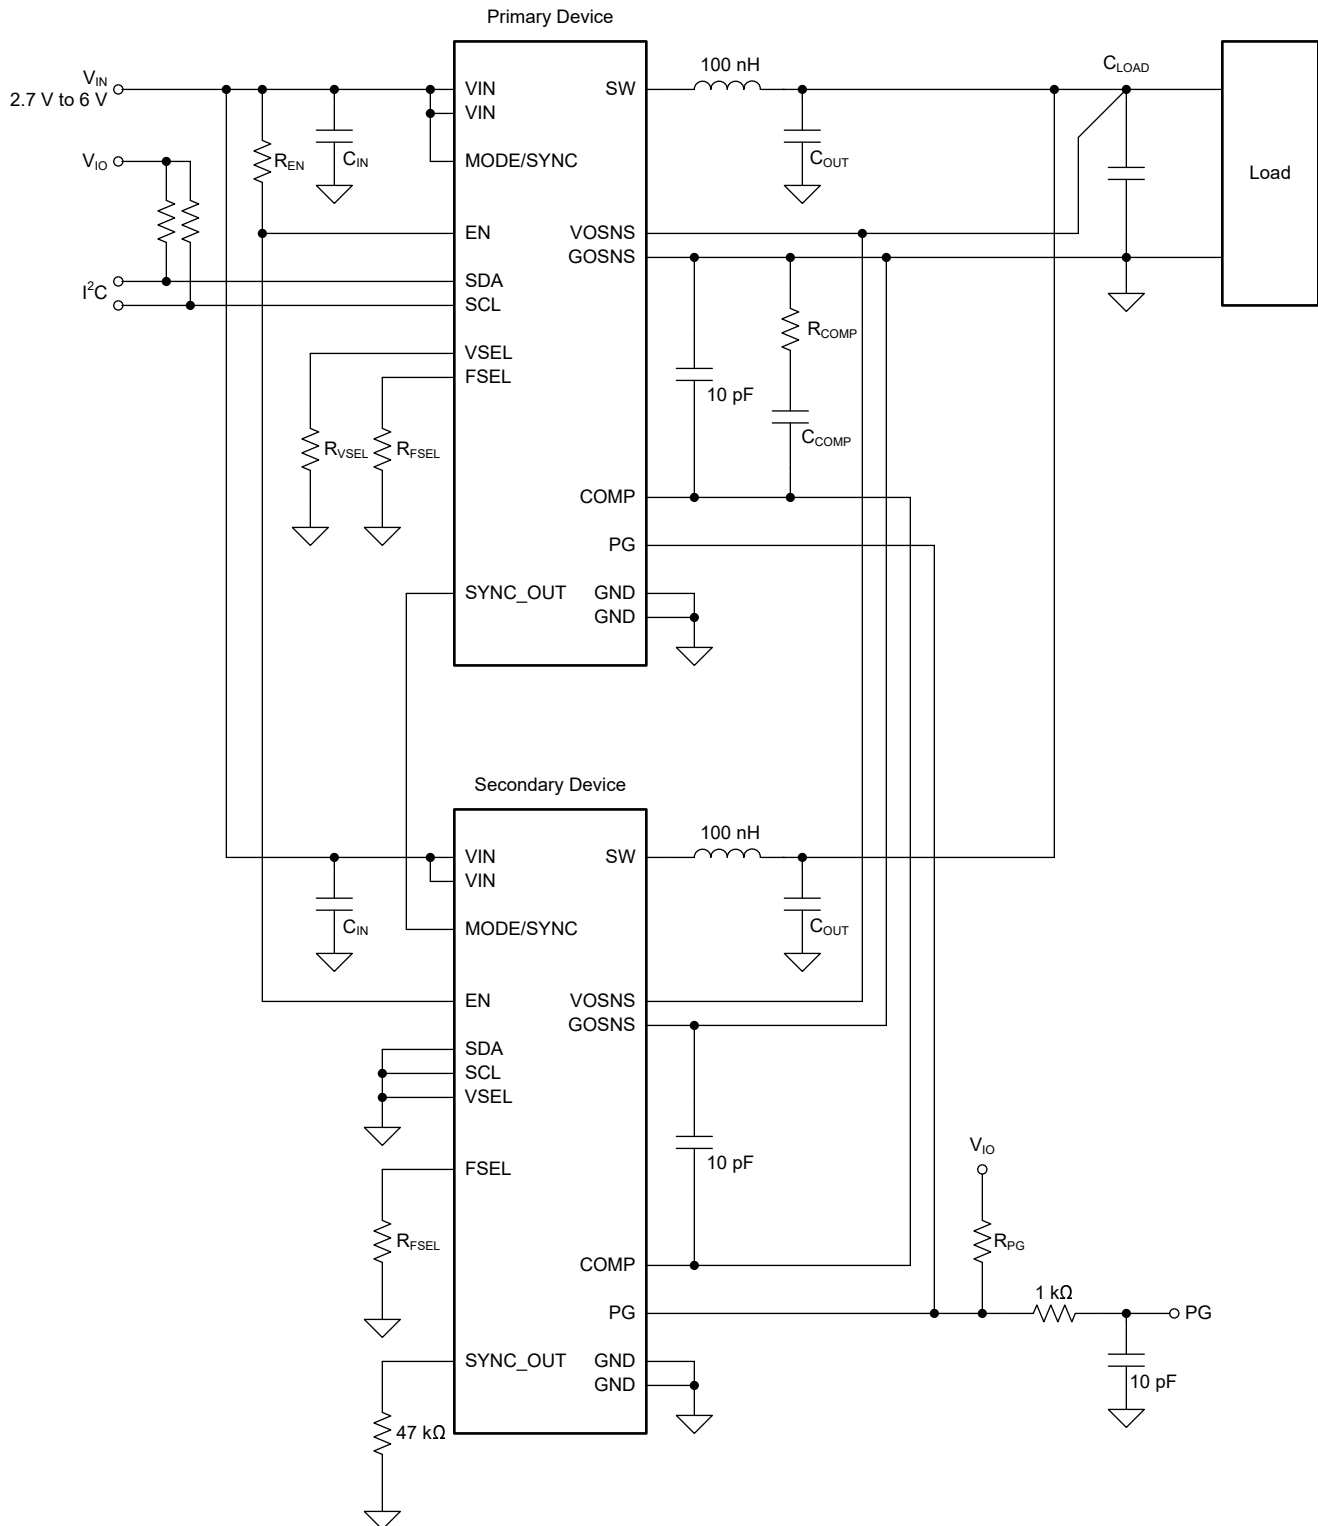

图 9-14. Two TPS6287x-Q1 Devices in a Stacked Configuration
To use the SSC function with multiple devices in a stacked configuration, ensure that the primary converter runs from its internal oscillator and synchronize all secondary converters to the primary clock (see 图 9-14).
**图 9-14** shows the recommended interconnections in a stack of two TPS6287x-Q1 devices.